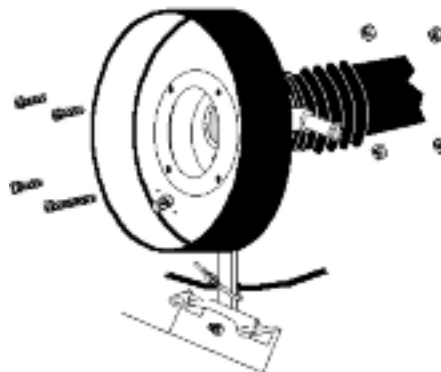

fig. 4
- 12) Bolt the filter adapter to mass-air sensor, using supplied hardware, and re-using the rubber O-ring. The vent elbow should be at nearly the 3 o'clock position as you look at the mouth of the mass-air sensor. This will place the K&N logo on the adapter at the 6 o'clock position and the temperature sensor in the 7 o'clock position. Use the long allen bolt in the hole that lines up with the bracket. (See fig. 4)